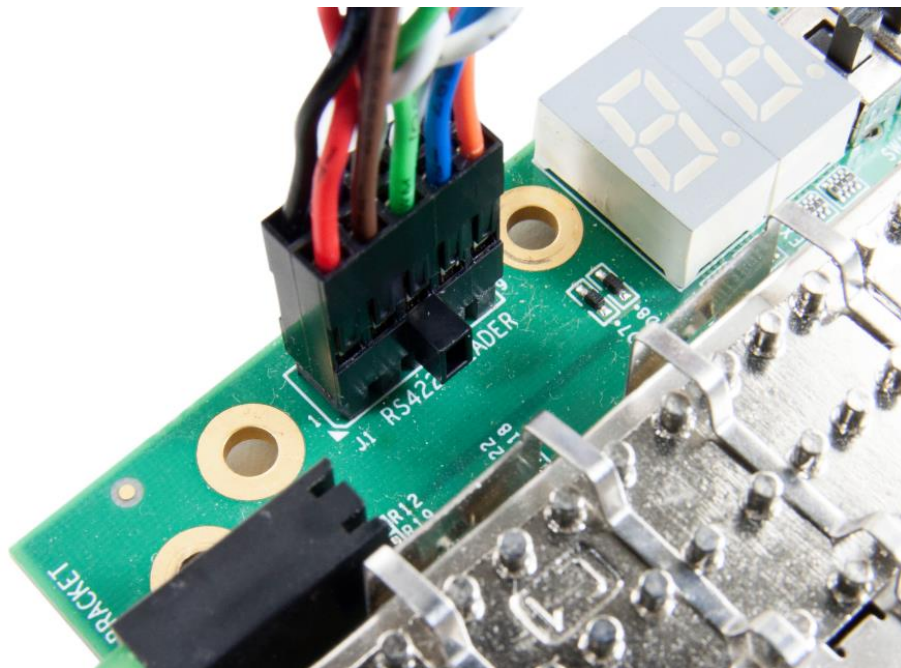

Figure 3-7 Final connection between 2x5 cable and DE5a-Net board
4. Make sure the final connection between 2x5 cable and DE5a-Net board as shown in **Figure 3-7**.